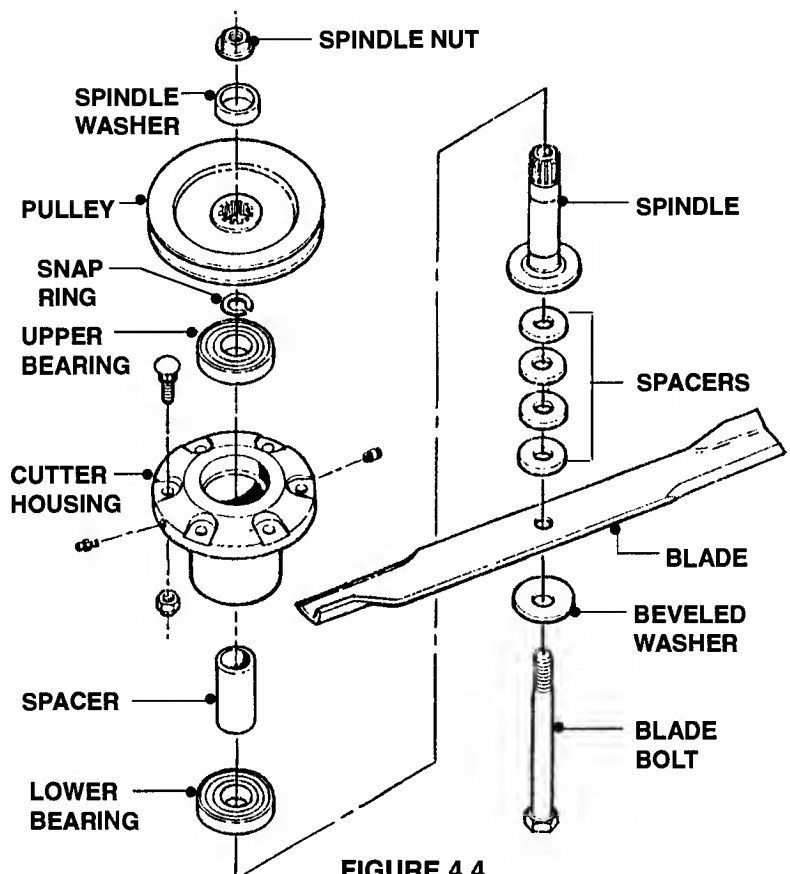

FIGURE 4.4
- B. Remove Spindle Washer. See Figure 4.4.